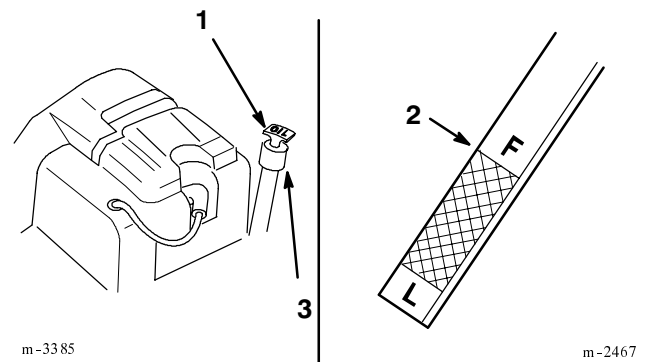

Figure 20
3. Clean around the oil dipstick (Fig. 20) so dirt cannot fall into the filler hole and damage the engine.
4. Pull the oil dipstick out and wipe the metal end clean (Fig. 20).
5. Push the oil dipstick fully into the filler tube (Fig. 20). Pull the dipstick out and look at the metal end. If oil level is low, slowly pour only enough oil into the filler tube to raise the level to the "FULL" mark.
6. Slowly pour approximately 80% of the specified amount of oil into the filler tube (Fig. 20). Now check the oil level; refer to Checking Oil Level, page 21. Slowly add additional oil to bring to "FULL" mark on dipstick.